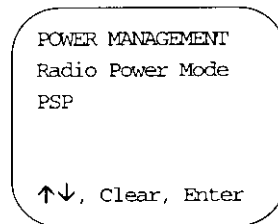

Figure D-10. Power Management Screen
9. Select **Power Management** from the main configuration menu. The *Power Management* screen (Figure D-10) is displayed.